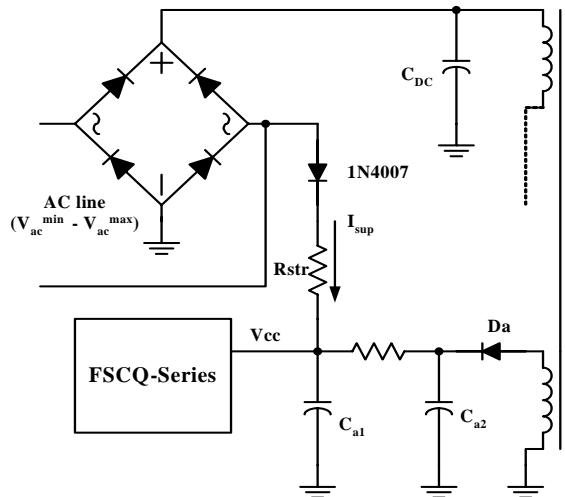
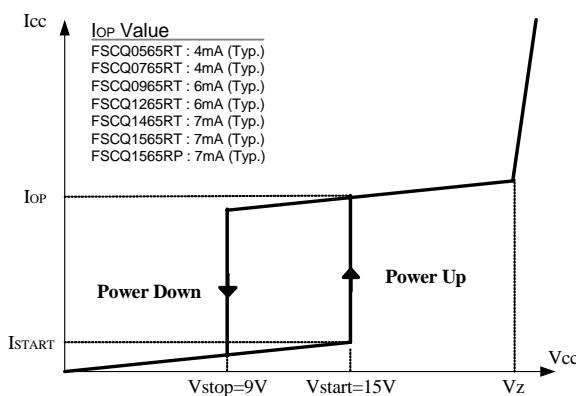

Figure 4. Startup circuit
Figure 5. Relationship Between Operating Supply Current and Vcc Voltage
**1. Startup:** Figure 4 shows the typical startup circuit and the transformer auxiliary winding for the FSCQ-Series. Before the FSCQ-Series begins switching, it consumes only startup current (typically 25uA). The current supplied from the AC line charges the external capacitor ( $C_{a1}$ ) that is connected to the Vcc pin. When Vcc reaches the start voltage of 15V ( $V_{start}$ ), the FSCQ-Series begins switching, and its current consumption increases to  $I_{OP}$ . Then, the FSCQ-Series continues its normal switching operation and the power required for the FSCQ-Series is supplied from the transformer auxiliary winding, unless Vcc drops below the stop voltage of 9V ( $V_{stop}$ ). To guarantee the stable operation of the control IC, Vcc has under voltage lockout (UVLO) with 6V hysteresis. Figure 5 shows the relationship between the operating supply current of the FSCQ-Series and the supply voltage (Vcc).